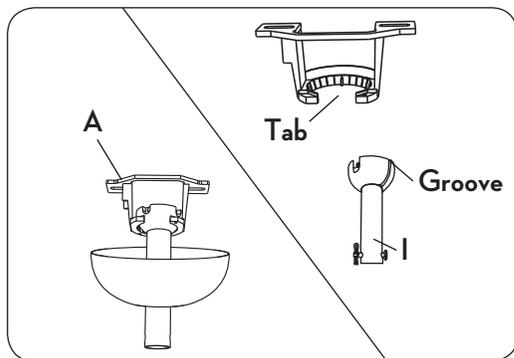

Figure 7
- Before making the electrical connections, carefully lift the fan assembly up to the mounting bracket (A). Seat the hanger ball in the mounting bracket socket. Make sure the tab on the mounting bracket socket is properly seated in the groove in the hanger ball (Figure 7).